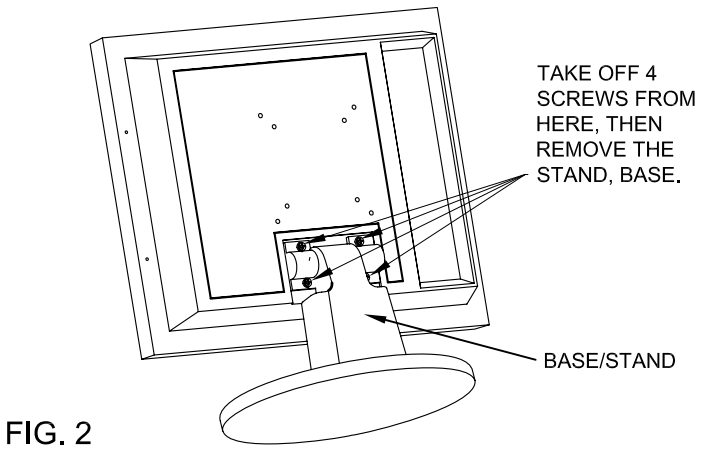

FIG. 2
1. Put the monitor TLM-1906 face down on a safe, flat surface, take off 4 screws from the back of monitor, the base/stand then being removed, see FIG. 2.